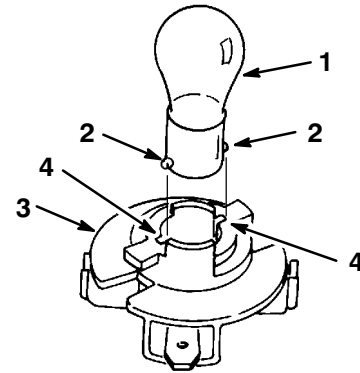

Figure 35
4. Push and rotate the bulb counterclockwise until it stops (approx. 1/4 turn) and remove the bulb from the bulb holder (Fig. 35).
1. The bulb has metal pins on the side of its base. Align the pins with the slots in the bulb holder and insert the base into the holder (Fig. 35). Push and rotate the bulb clockwise until it stops.